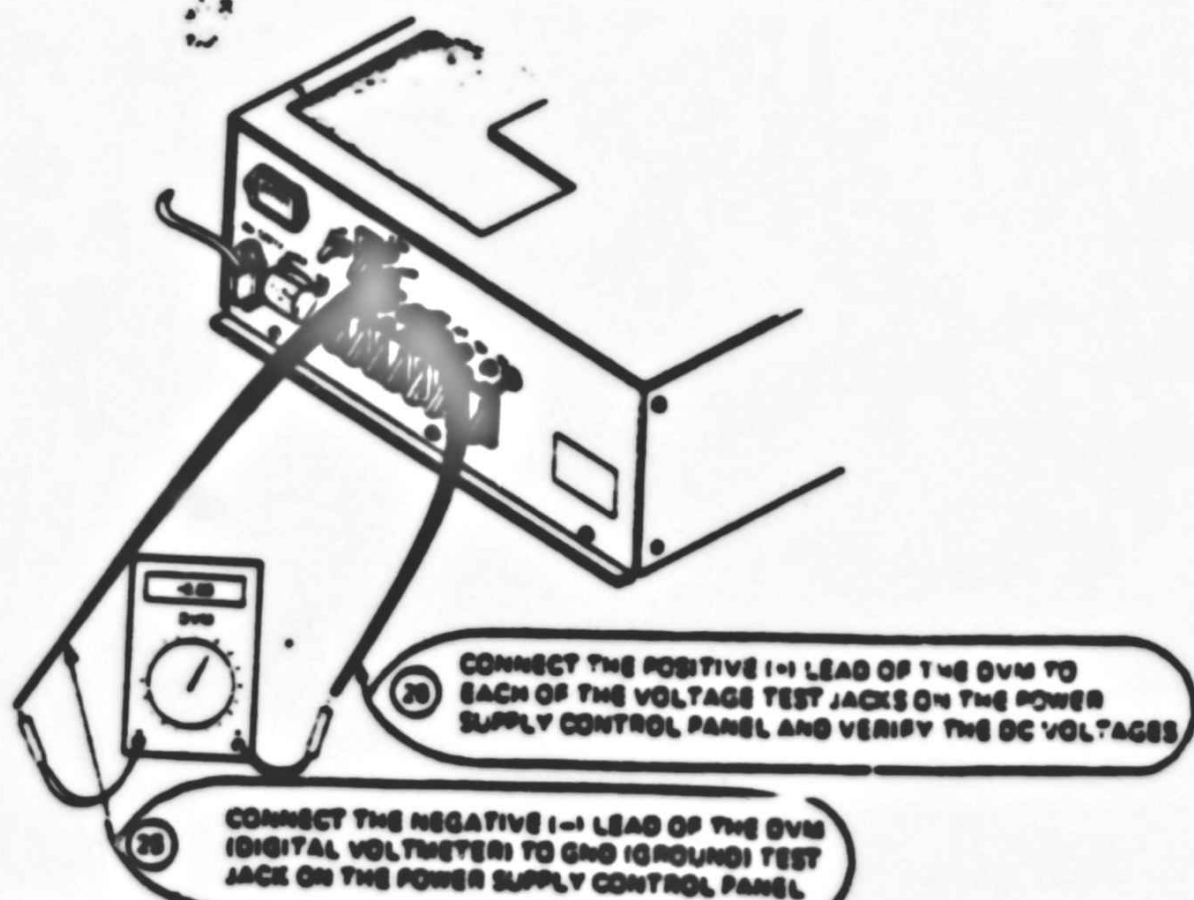

FIGURE 12 VDS RATED POWER SUPPLY CONTROL PANEL
25. Connect the negative (-) lead of a DVM (Digital Voltmeter) to the GND (ground) test jack on the power supply control panel and verify the following DC voltages. (See Figure 12)
26. Connect the positive (+) lead of the DVM to each of the voltage test jacks on the power supply control panel and verify the following DC voltages. (See Figure 12)